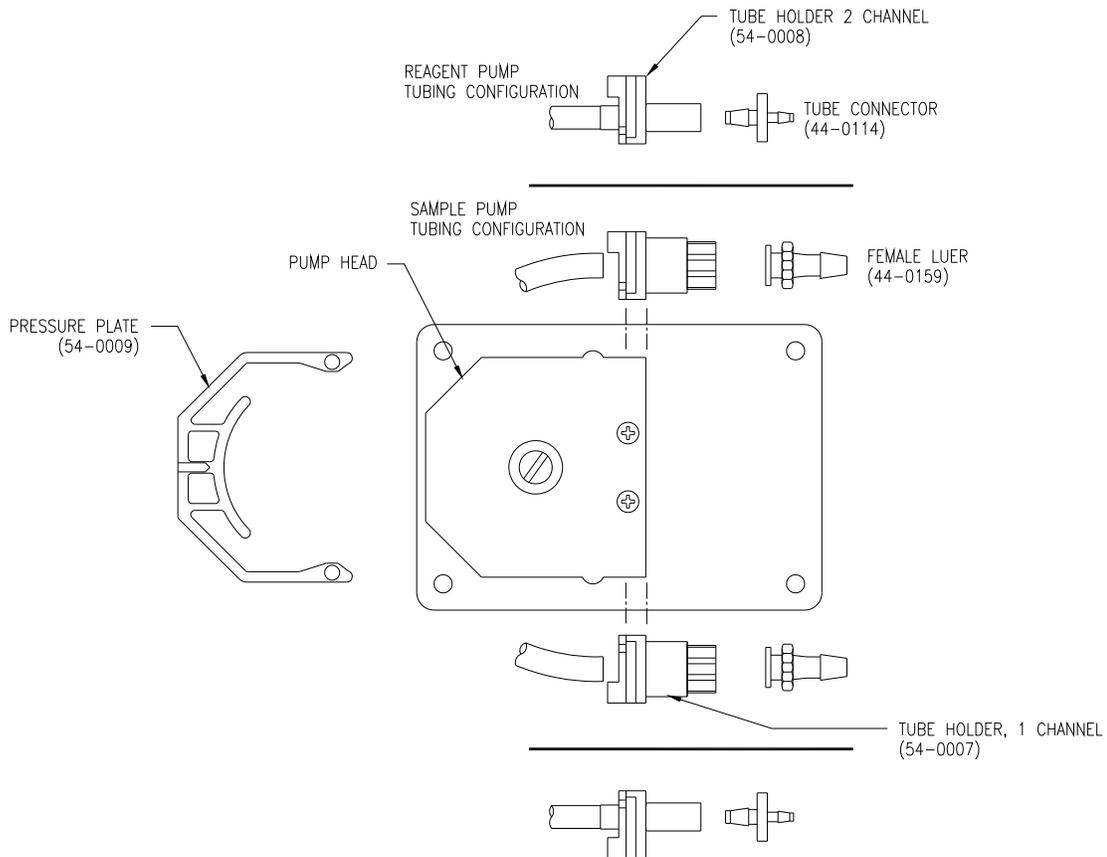

Figure 11 - Pump Head Assembly Exploded View
1. Remove the tubing clamp plate from the rear of the pump. This is done by gently pressing in on the sides of the plate and pulling it backward. See figure 11 for an exploded view.